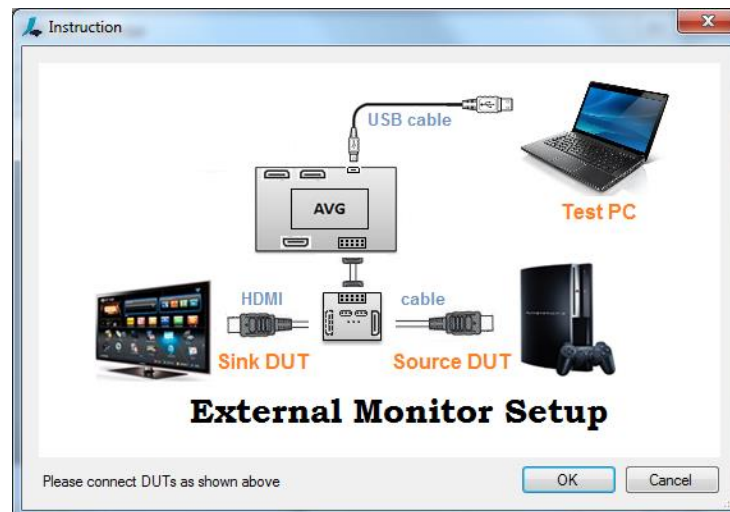

Figure 4.20. Pass Through Monitor Instruction Dialog
- When you select the External radio button, a dialog pops up (Figure 4.20) asking you to connect the sink and source devices to the test computer. After the connection is set up, click OK.